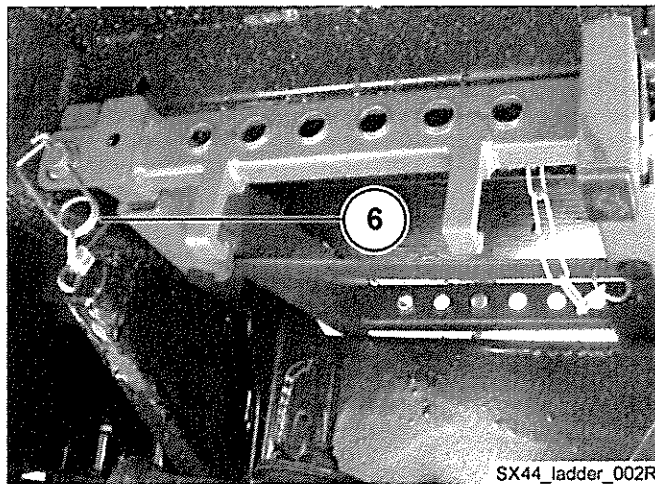

Fig 24 Ladder retaining pin
26.6 Refer to Fig 24. Slide the access ladder into its stowage beneath the flatbed.